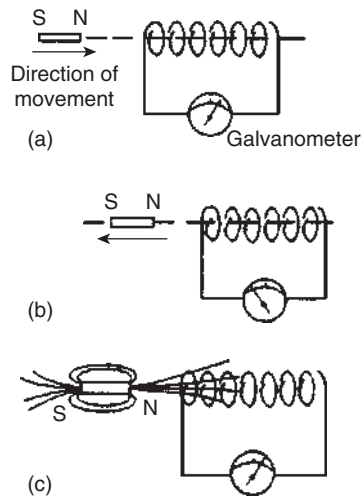

Figure 9.1
Figure 9.1(a) shows a coil of wire connected to a centre-zero galvanometer, which is a sensitive ammeter with the zero-current position in the centre of the scale.
- (a) When the magnet is moved at constant speed towards the coil (Fig. 9.1(a)), a deflection is noted
- (b) When the magnet is moved at the same speed as in (a) but away from the coil the same deflection is noted but is in the opposite direction (see Fig. 9.1(b)).
Figure 9.1(c) shows the magnetic field associated with the magnet. As the magnet is moved towards the coil, the magnetic flux of the magnet moves across, or cuts, the coil. **It is the relative movement of the magnetic flux and the coil that causes an e.m.f. and thus current, to be induced in the coil.** This effect is known as electromagnetic induction. The laws of electromagnetic induction stated in Section 9.2 evolved from experiments such as those described above.